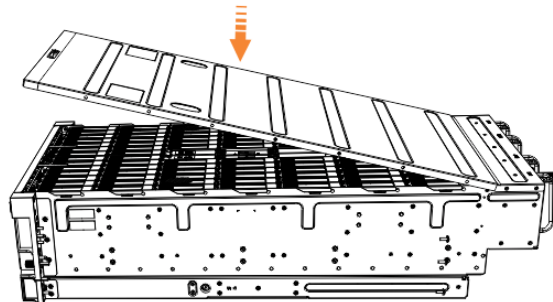

Figure 144. Aligning the top cover
6. Carefully lower the cover and ensure that it is aligned correctly with the back of the enclosure, as shown in Figure 144 on page 181.